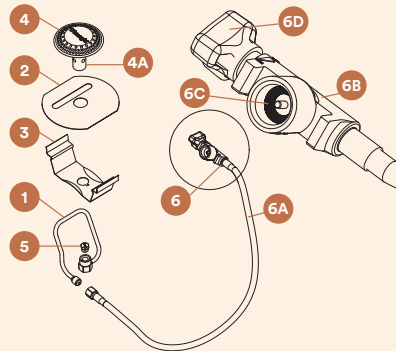
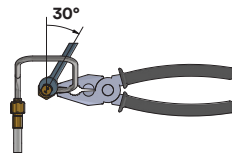
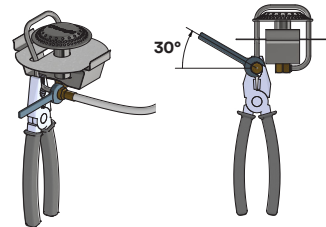

Figure 6 & Table 3. Components
Figure 7
Figure 8
- 2.7 Avoid twisting the flexible hose. Avoid blocking or obstructing the air inlet holes in the mixer tube (4A in figure 6).
- 3.4 Check that the seals (between the appliance and the gas cartridge) are in place and in good condition before connecting to the gas cartridge, see 6C in figure 6. Connect the gas cartridge outside and away from people and open fire.
- 5.1.2 Do not use the whole preheating tube (1 in figure 6) as a lever during service as this might damage the tube. Hold the end of the tube with pliers for better grip.
- 5.2.1 Check that the O-ring in the valve (6C in figure 6) is in good condition.
- Replace/tighten the hose to the preheating tube using a 10 mm open spanner. If the hose is loose, screw by hand to stop and additionally 30° (=3–4 Nm). Do not use the whole pre heating tube (1 in figure 6) as a lever as this might damage the tube. Hold the end of the tube with pliers, see figure 8.
- 5.4.3 Unscrew the burner top (4 in figure 6). Hold the mixer tube (4A in figure 6) with pliers for better grip. Do not damage the holes in the mixer tube. Never use the whole pre heating tube (1 in figure 6) as lever.
- 5.4.4 Unscrew the jet (5 in figure 6) from the valve using an 8 mm open spanner. Hold with pliers at the housing or at the end of the preheating tube close to the housing, see figure 7.
- 5.4.6 Refit the jet and screw it tightly. To ensure a gas seal, screw by hand to stop and additionally 30° (=3–4 Nm). Hold with pliers at the end of the preheating tube close to the housing, see figure 7.